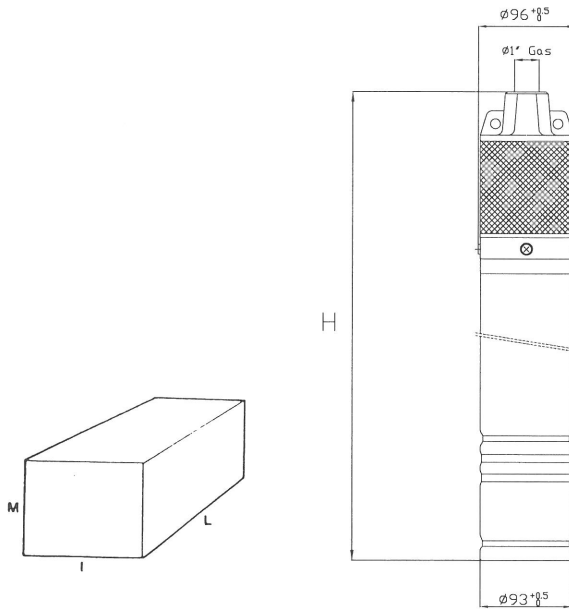

fig. 1 - Abb. 1 - fig. 1
- 15.1. Diagram of pump dimensions (fig. 1)
15.1. SCHEMA INGOMBRI ELETTROPOMPA (fig. 1)
15.1. DIAGRAM OF PUMP DIMENSIONS (fig. 1)
15.1. COTES D'ENCOMBREMENT DE L'ELECTROPOMPE ET POIDS (fig. 1)
15.1. RAUMBEDARF DER ELEKTROPUMPE (Abb. 1)
15.1. ESQUEMA DIMENSIONES ELECTROBOMBA (fig. 1)
- The electropump is packed in a cardboard box for transport; as its total weight and bulk are not excessive (fig. 1), transport presents no problems. However, check the total weight marked on the box.